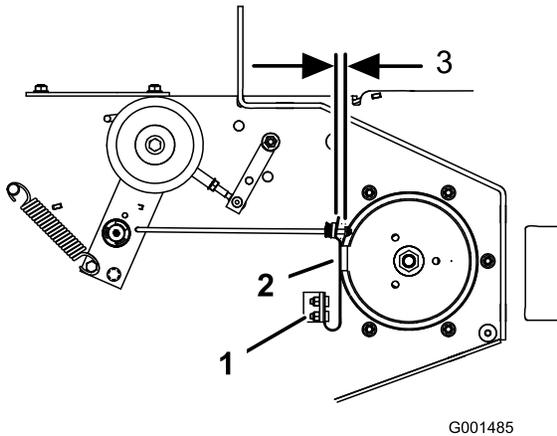

Figure 60
3. If necessary, adjust the spring mounting bolts so that the blade brake pad rubs against both sides of the pulley groove (Figure 60).
- Adjust the nut at the end of the blade brake rod until there is 1/8-3/16 inch (3 mm -5 mm) between the nut and spacer (Figure 60).